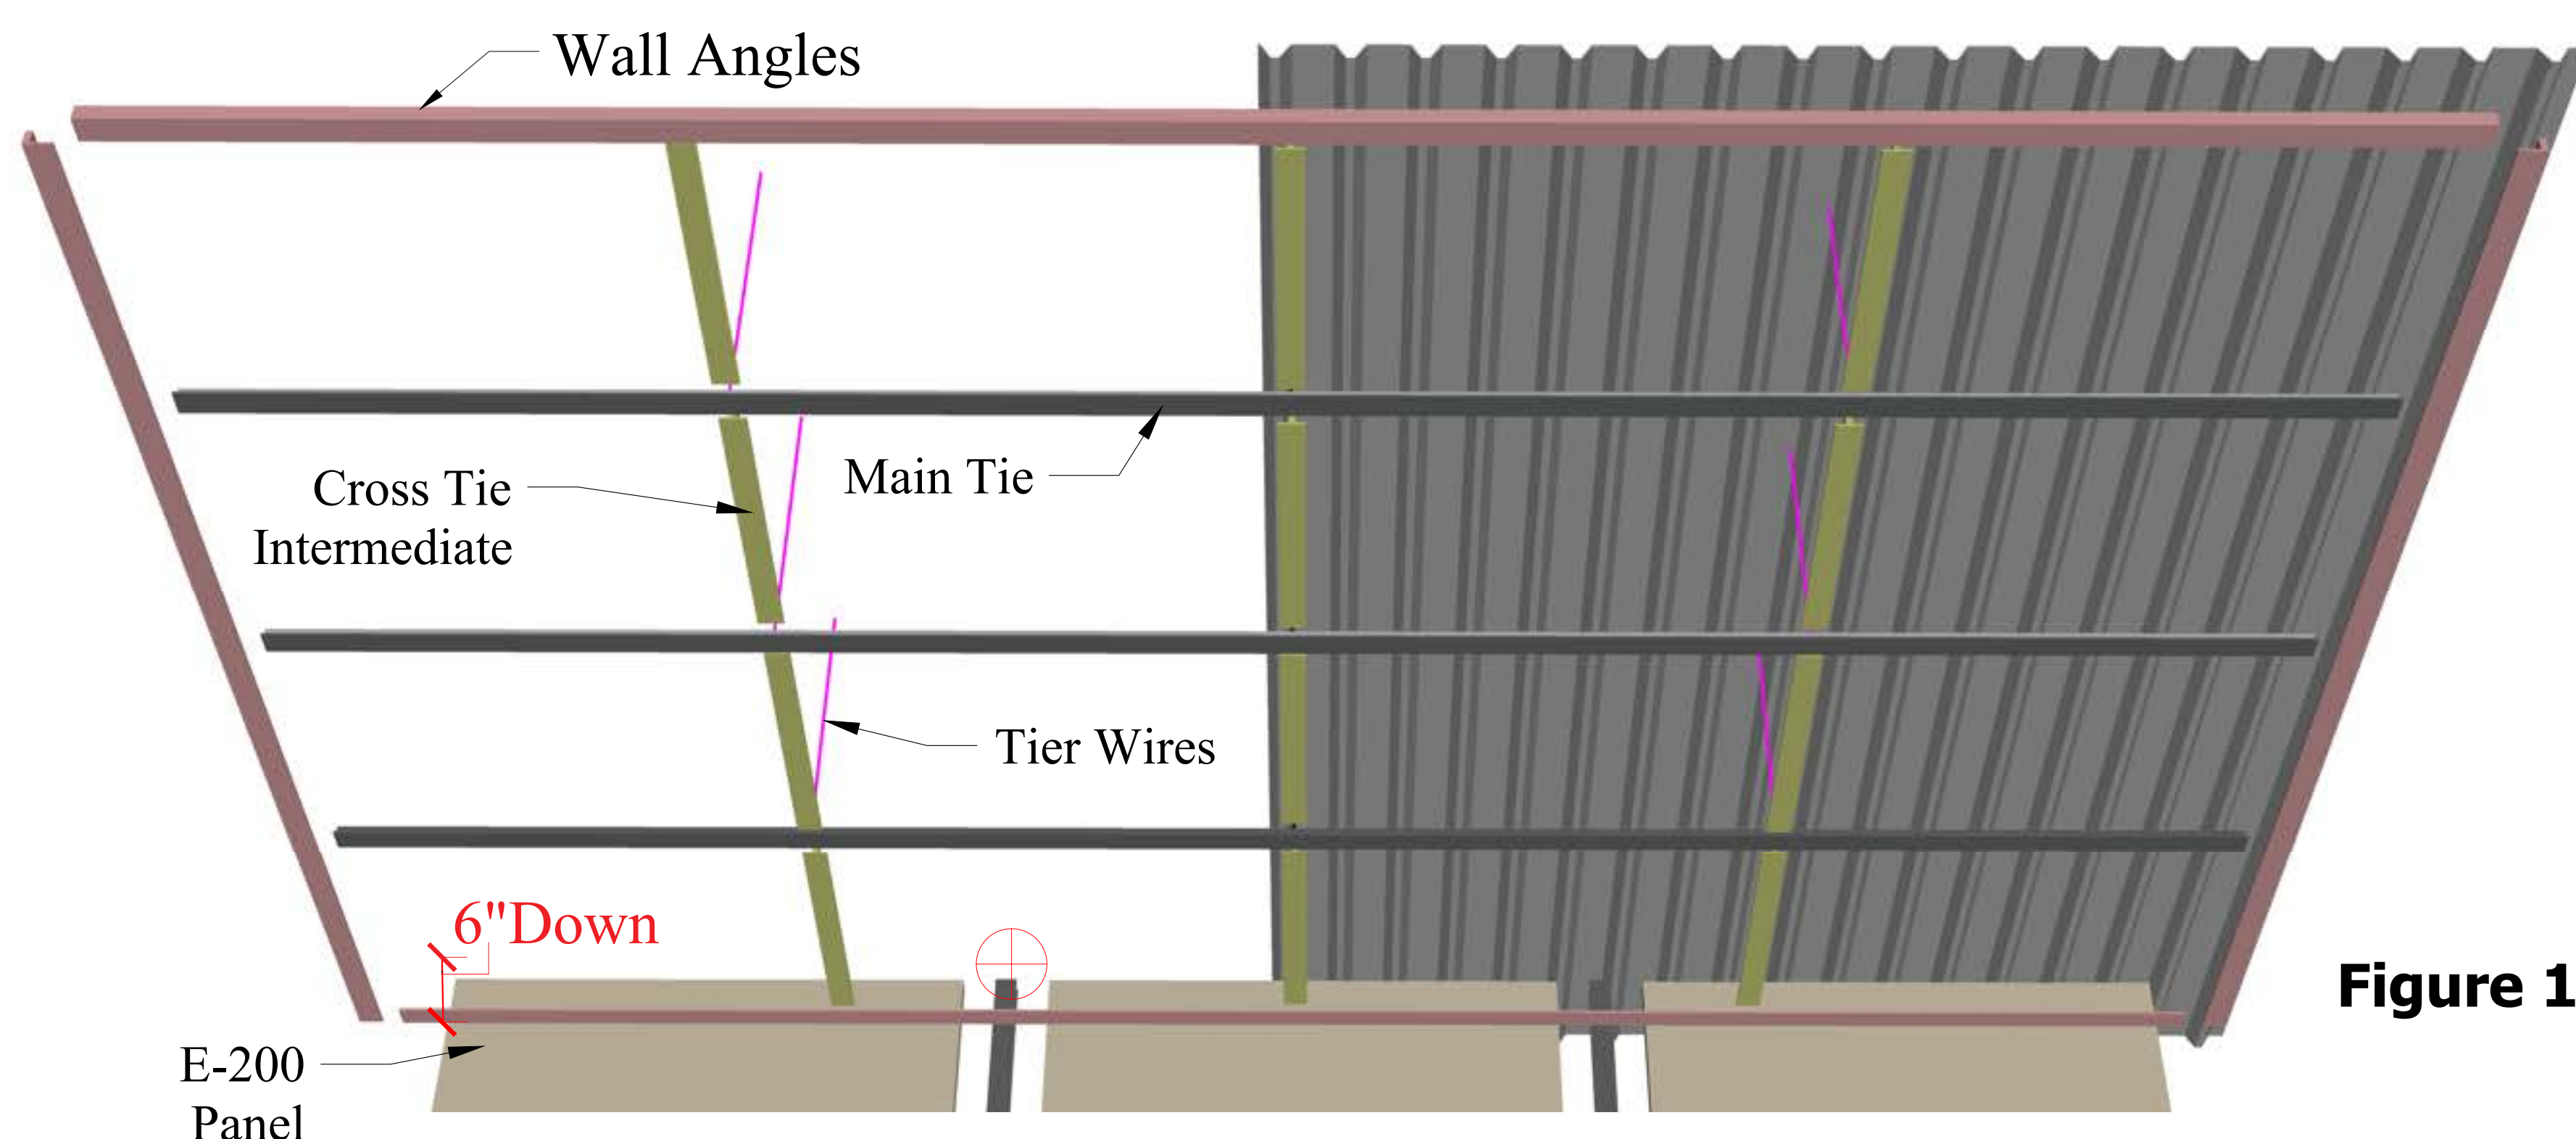

Figure 15
Step 2 The first step is to install the Drop Ceiling Wall Angles (provided in 12’ lengths). The Wall Angle must be cut to fit the walls of the office. Then, install the Wall Angle around the entire inside perimeter of the office; approximately 6” below the top of the wall panels.(See Note) Secure at each Intermediate H-Post and Corner Post with the screws provided. (see Figure 15).